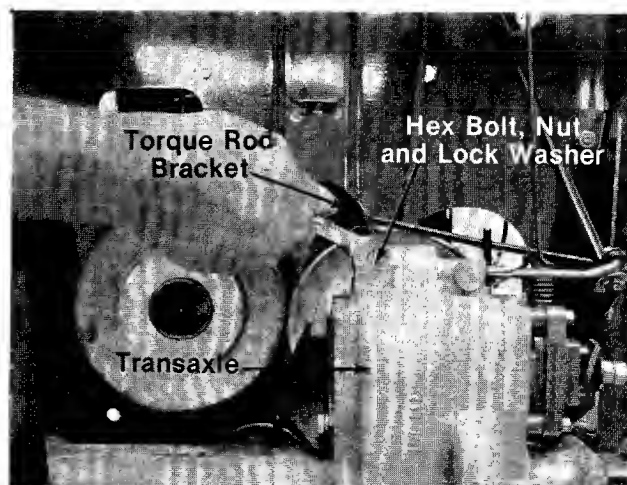

FIGURE 28.
2. Remove the hex bolt, nut and lock washer at the torque rod bracket and transaxle. See figure 28.